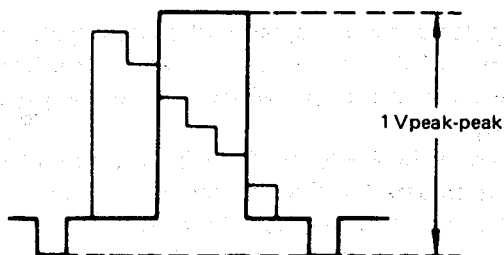

Figure 46.
3. Adjust R409 (playback level control) so that the output waveform is as shown in Fig. 46.